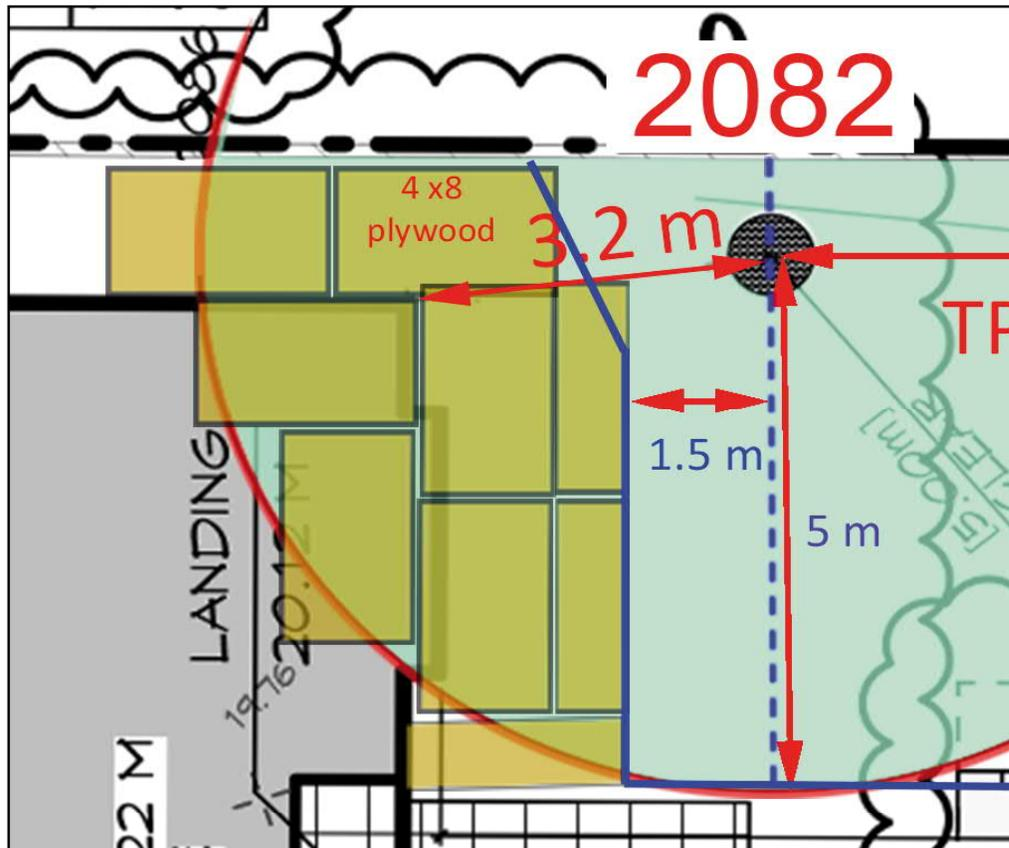

Figure 5. Conceptual layout of plywood beyond fence, and under grade beam and slab.
- 2 Once the protection fence is in place around the oak tree, sheets of 5/8" plywood shall be laid down on the ground as shown in figure 5. The sheets should be screwed together with wood strips or plywood overlaps.